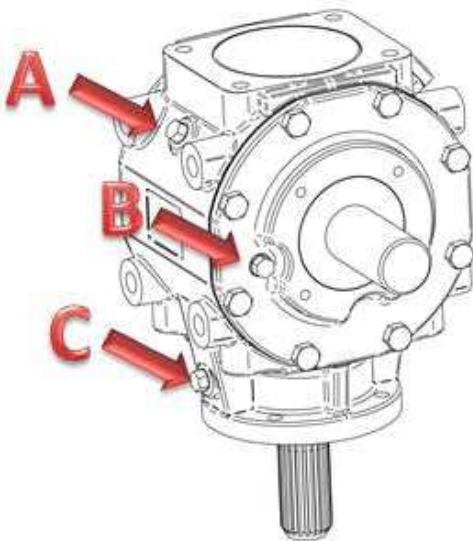

Fig. 18. Changing oil in side gearbox
- Unscrew the drain and filler plug (C, A on fig. 18 and 19)